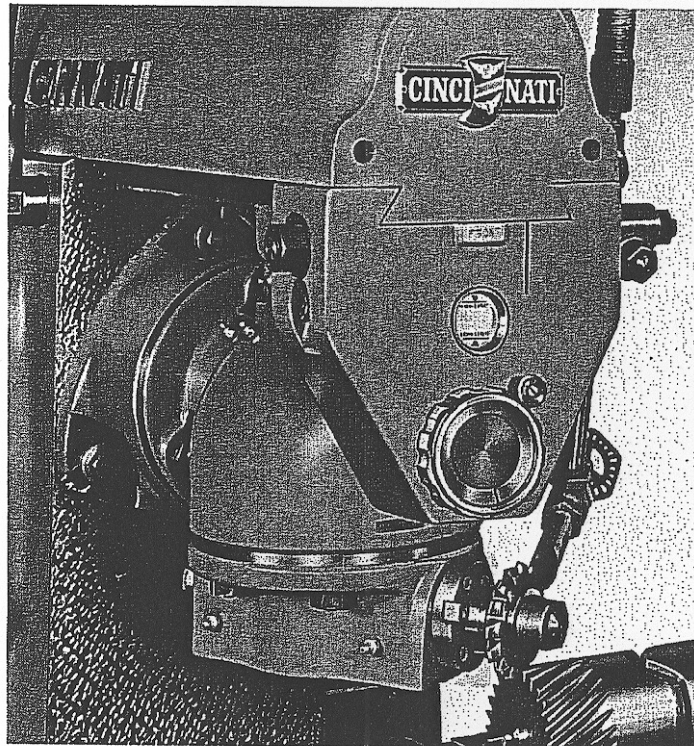

Figure 67
1. If the machine is a plain miller, obviously the table can not be swiveled to bring the work piece to the correct helix angle with the cutter. It then becomes necessary to swivel the cutter. This angular setting is obtained by means of the Universal Milling Attachment (Figure 67).